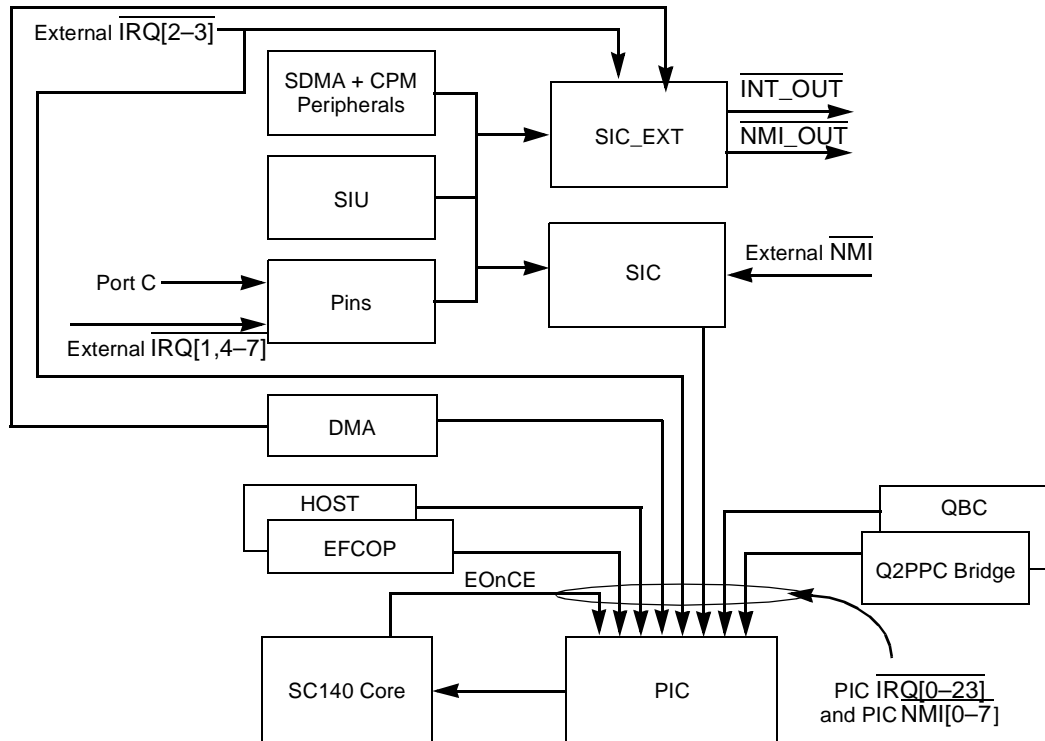
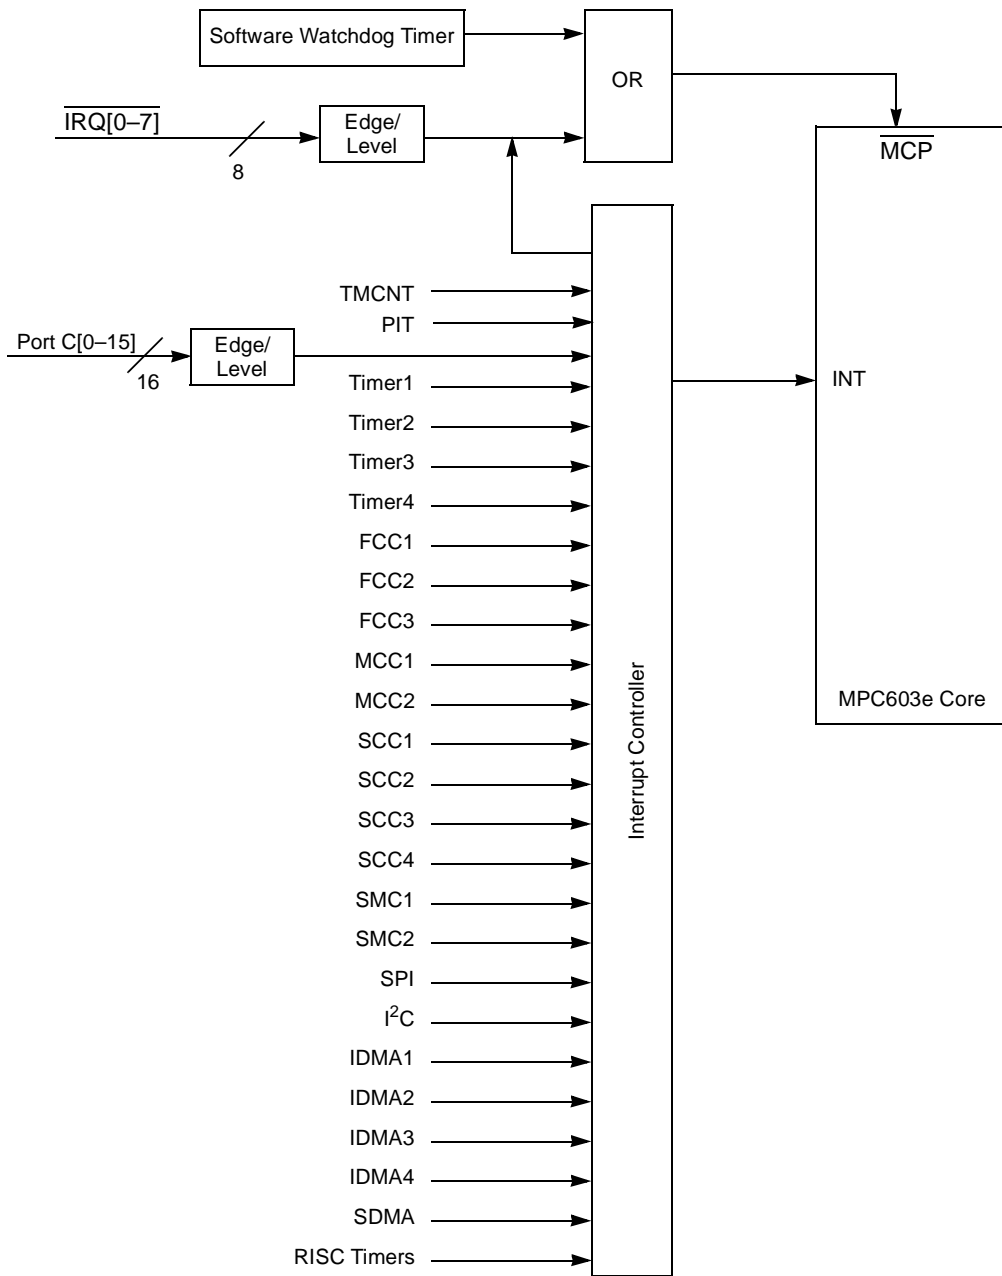

Figure 8. MSC8101 Interrupt Structure
Figure 9. MPC8260 Interrupt Structure
The MPC8260 IC and MSC8101 SIC are similar. The MPC8260 interrupt controller (IC) is renamed to the SIU-CPM interrupt controller (SIC) in the MSC8101. The PIC interrupt controller is added to the MSC8101 extended core to manage the interrupts in the extended core (QBC, HOST, EFCOP, Q2PPC Bridge) and the interrupts coming from the SIC in the SIU. **Figure 8** and **Figure 9** show the functional block diagram for the MPC8260 and MSC8101 interrupt structure, respectively.